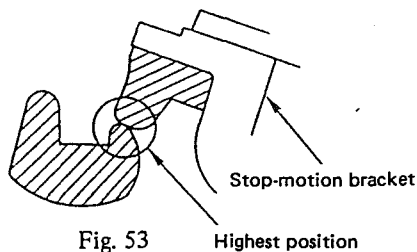

Fig. 53
<p>1. Depress the foot pedal at the stop-motion position of the sewing machine to make work clamp foot ❶ come down. At this time, adjust the clearance between work clamp foot mounting base ❷ and lifter lever ❸ using adjustment screw ❹ provided with lifter lever stopper ❺.</p> <p>2. Then, bring the stop-motion bracket to its highest position as illustrated Fig. 53. Adjust so that a clearance of 0.5 mm is provided between lifter stopper suspension ❷ mounted on cloth cutting knife arm ❸ and lifter adjusting block ❹. Temporarily tighten screw ❶ in the block, and determine the position of the lifter adjusting block using adjustment screw ❷. Once the block is correctly positioned, firmly tighten nut ❸ and adjusting screw ❶.</p> <p>* For the MBH-180L, the lifting amount of the work clamp foot is 2 mm when the clamp tail piece is in its front end.</p> 	<p>If the clearance between the lifter stopper suspension and the lifter adjusting block is smaller than 0.5 mm, the work clamp foot may fail to go up at the time of stop-motion. If the clearance is larger than 0.5 mm, lifting amount of the work</p>